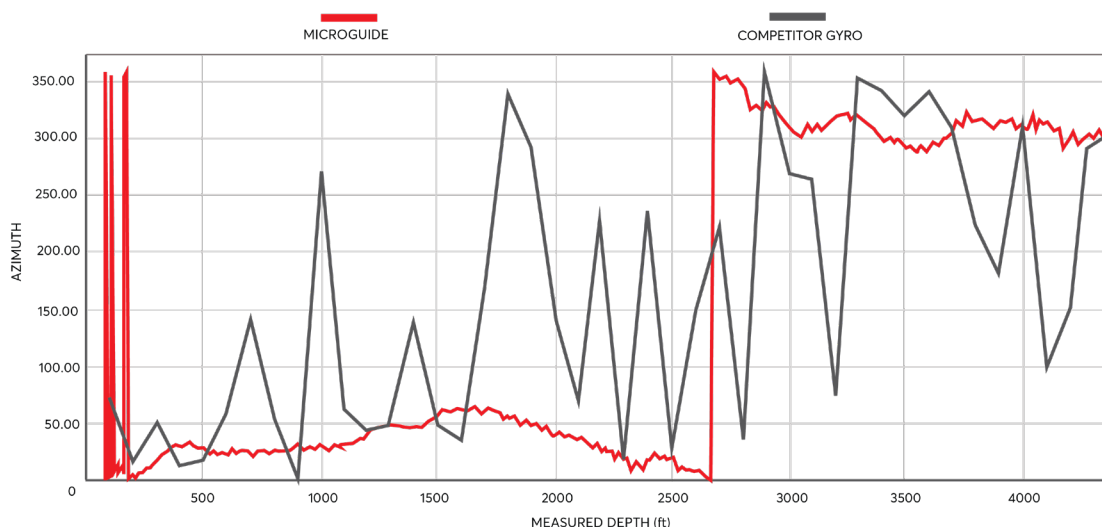

Fig. 1—The graph shows the clear differences in azimuth readings between the original gyro surveys and the MicroGuide logs throughout the well.
- The MicroGuide data showed that the well was straight down to the the kickoff point and that there was no bending down to approximately 4,370 ft. The original survey data had more than a dozen incorrect azimuth readings (**Fig. 1**), which would have led to the operator taking a costly and unnecessary approach to placing the rod guides.